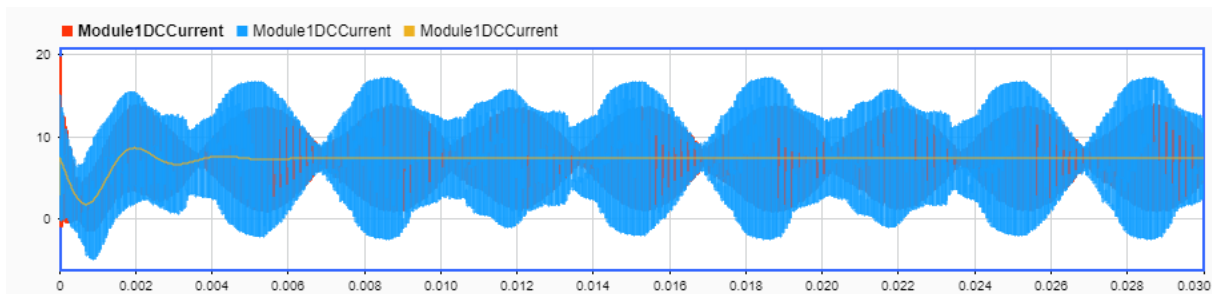

Figure 10: Module Current Waveforms with and without Module Connection Inductances (Orange is with conn. Induct.)
- Since the commutation inductances are unbalanced, if there is no connection inductance we observe asymmetric module current oscillation because each time the module generates unbalanced response for the unbalanced stress sources in other module. It is the reason for module current waveforms in Figure 10.